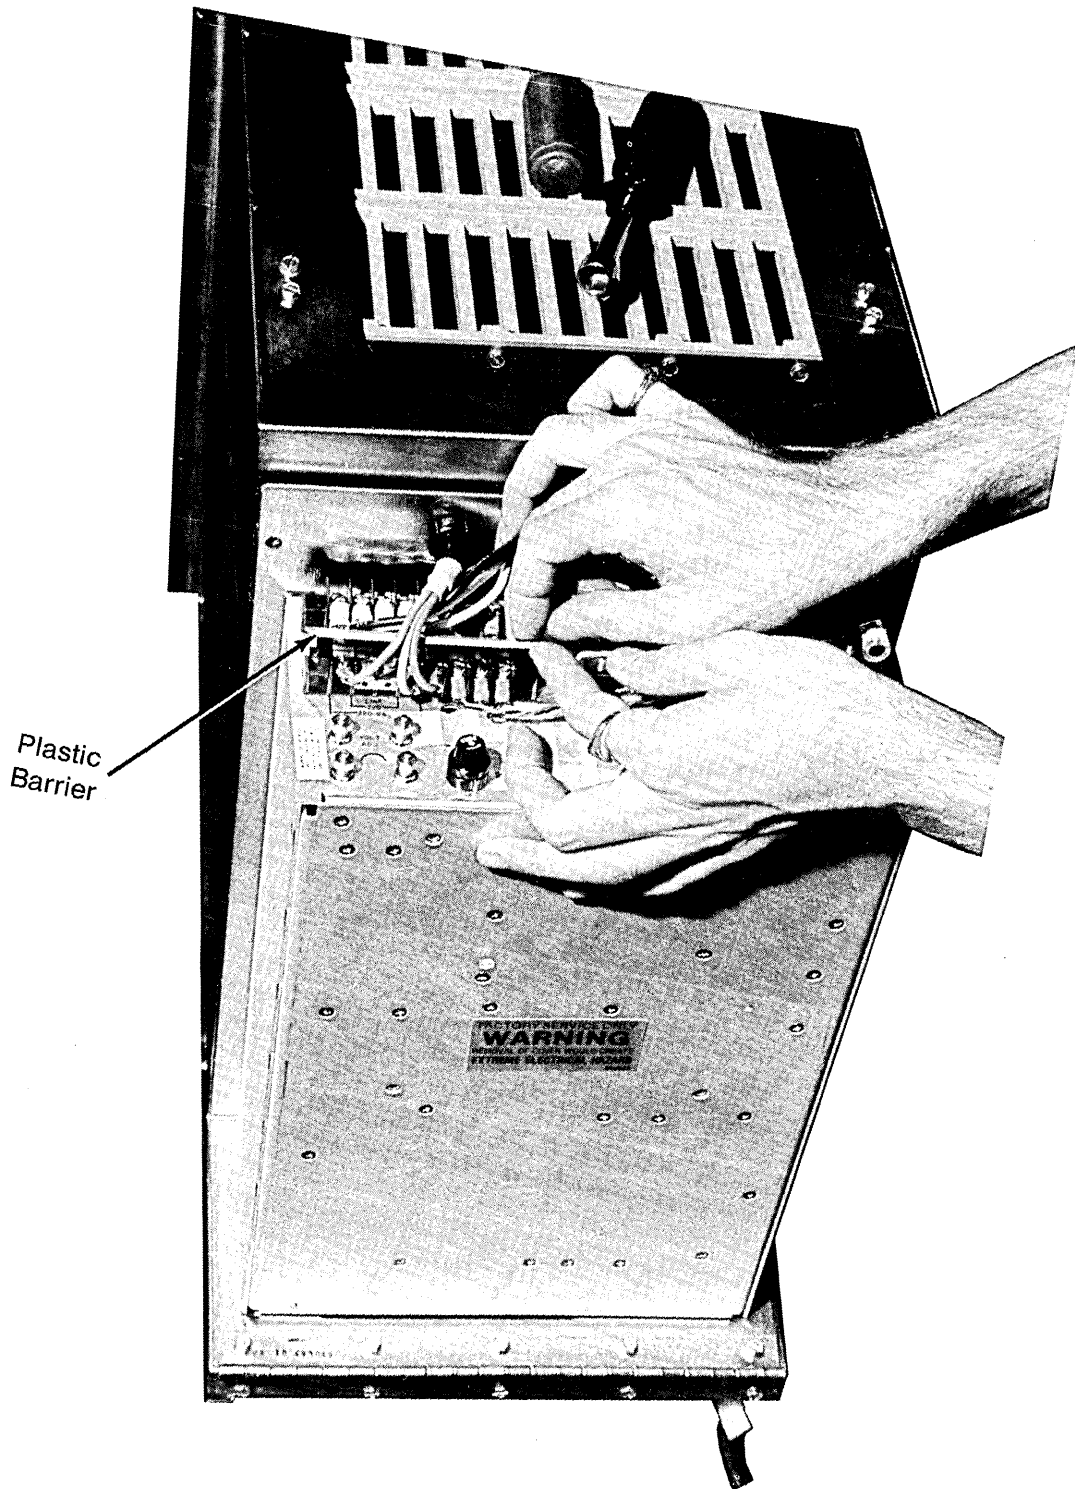

Figure 5-40. Removing Plastic Barrier Over Terminal Strip
8. See figure 5-40. Snap off the plastic barrier as shown and remove the connections under it.